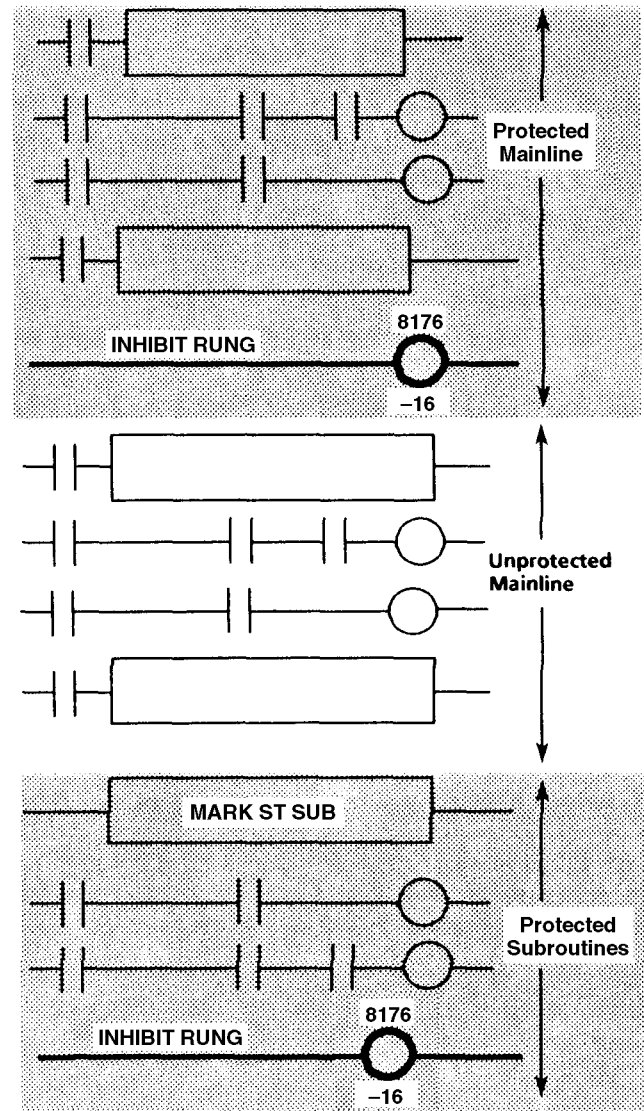

Figure 6.6 Operation of the Inhibit Rung Coil
Figure 6.6 illustrates the operation of the Inhibit Rung.
1. Displaying, by programming equipment, any rungs protected by Inhibit Rungs (see Figure 6.6). Two different groups, each with an Inhibit Rung, can be protected. Enabled protection applies to both channels.